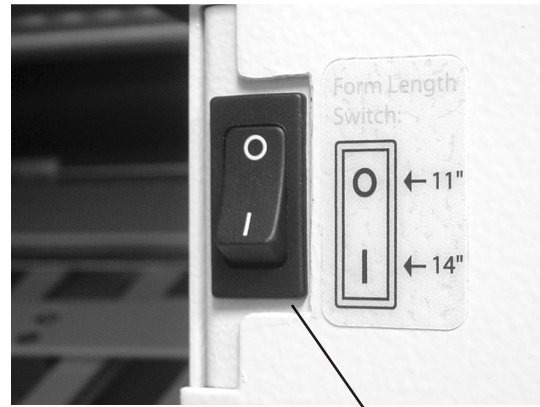

Fig. 12
2. Set the form length by flipping the 11"/14" toggle switch located below the feed deck on the operator side (Fig. 12)